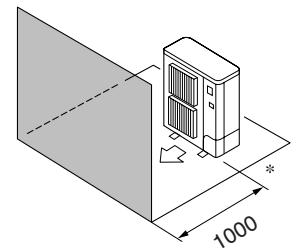

Fig. 3-8
- ④ Obstacles at front only (Fig. 3-8)